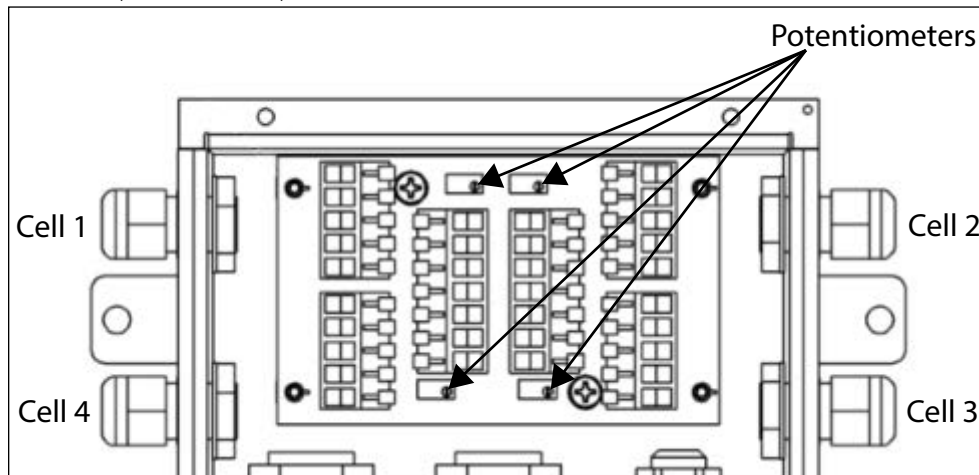

Figure 3-1. Summing Board Diagram
3. Turn all four potentiometers (Figure 3-1) clockwise to increase the reading until a clicking sound is heard from each potentiometer. This ensures the maximum signal from each load cell.